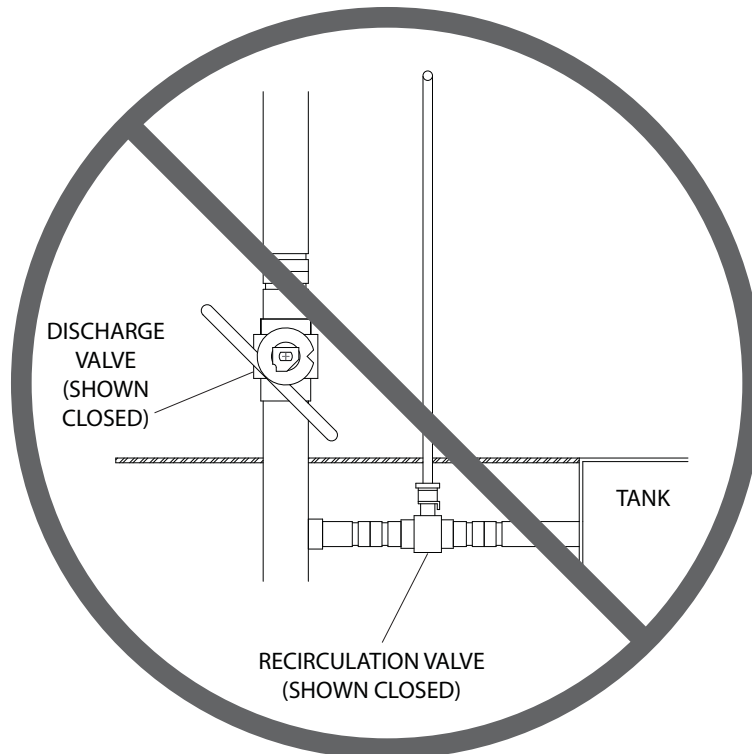

Figure 2 – NEVER Engage Slurry Pump Clutch with Both Valves Closed
- B. Check automatic pressure lubricator at pump. If the stem is fully extended, with thumb nut all the way up, the automatic pressure lubricator contains lubricant. If not, lubricant must be replaced by the following procedure (See Figure 2):
⚠ DANGER *Never engage (turn on) slurry pump clutch when both valve handles are positioned as shown in Figure 2. If both valves are closed, a situation of extreme heat generation will result. Failure to comply could result in death or serious injury. Failure to comply could also result in product or property damage.*